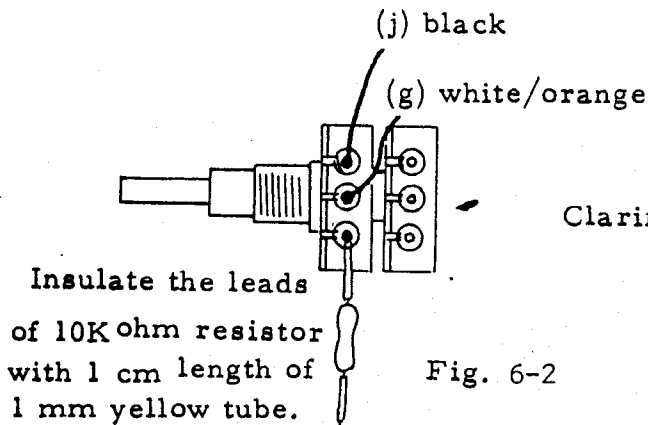

Fig. 6-2
8. Solder black (j) and white/orange (g) wires and 10K ohm resistor (c) as illustrated in Fig. 6-2.